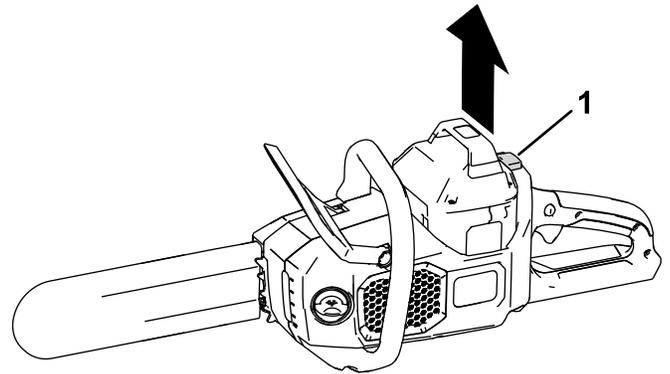

**Figure 23**
2. Align the tongue of the battery pack with the battery cavity in the chain saw (Figure 23).